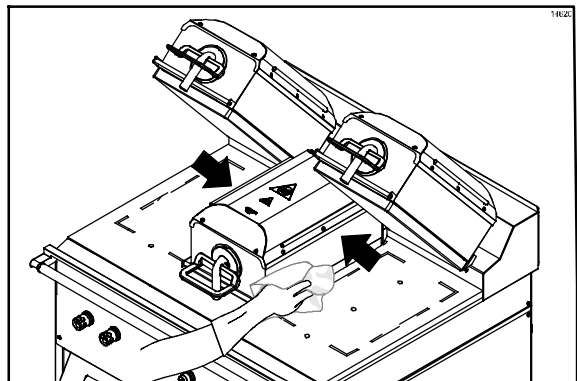

Figure 61
34. Rinse both sides of the center platen. (See Figure 61.)